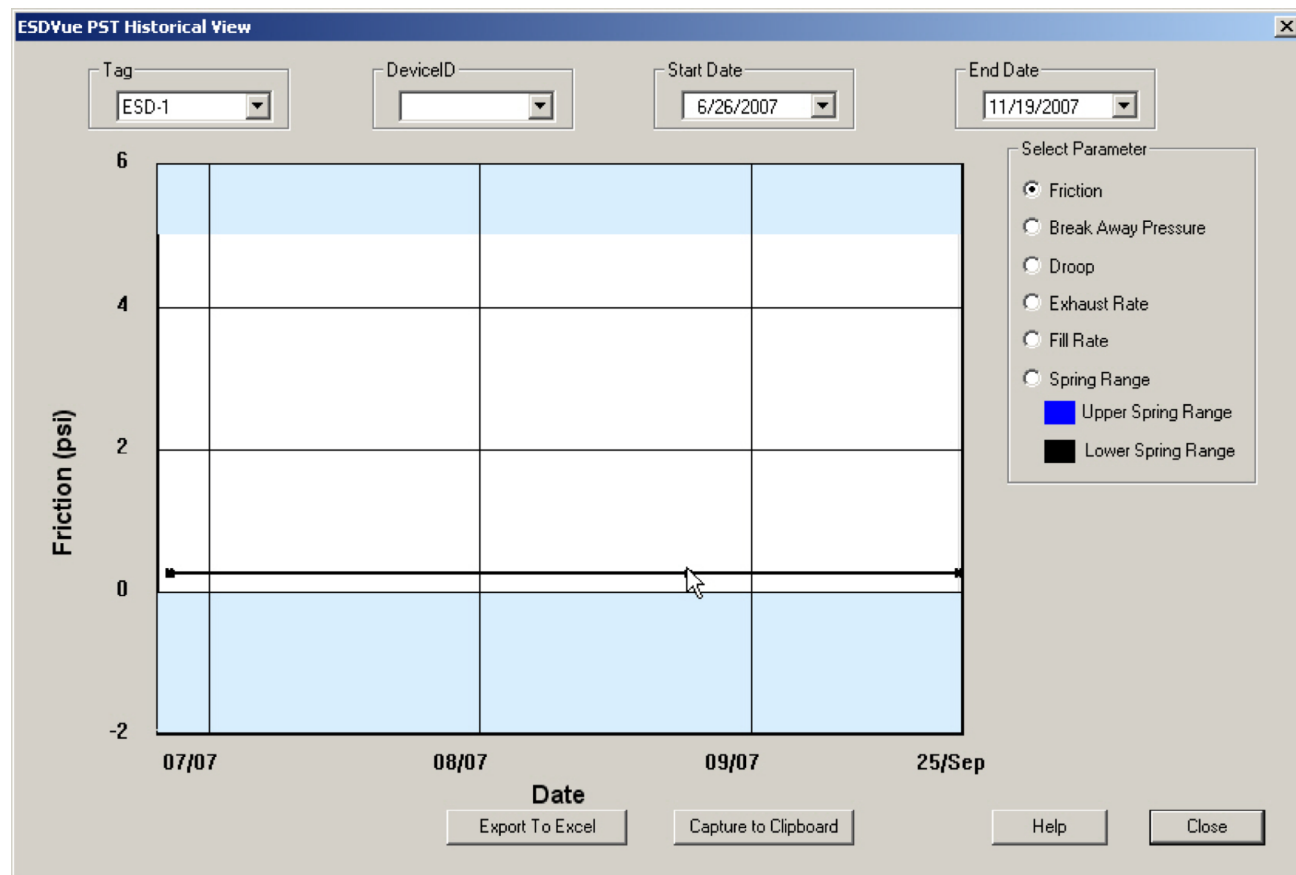

Figure 298 - Selecting a Historical View Data Point
2. Double-click on the date's data point (*Figure 298*).